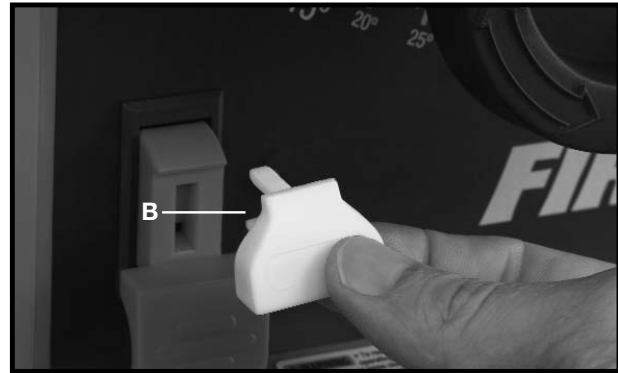

Fig. 35
IMPORTANT: When the tool is not in use, the switch should be locked in the “OFF” position to prevent unauthorized use. To lock the tool, grasp the switch toggle (B) and pull it out of the switch (Fig. 35). With the switch toggle (B) removed, the switch will not operate. However, should the switch toggle be removed while the saw is running, the machine can be turned “OFF,” but cannot be restarted without re-inserting the switch toggle (B).